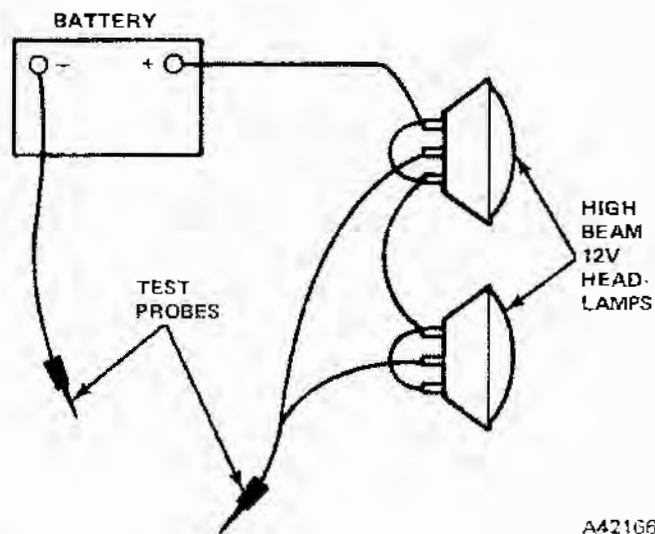

Fig. 3-27 Rectifier Heavy Load Tester
(1) Attach a needlenose pliers or some other type of heat absorber between diode and diode wire solder joint.
(2) Unsolder wire(s) from each diode. Use a test apparatus as shown in figure 3-27. This apparatus places about a 15-ampere load on diode.
(3) Attach tester to a fully charged 12-volt battery.
(4) Connect one test lead to diode heat sink.